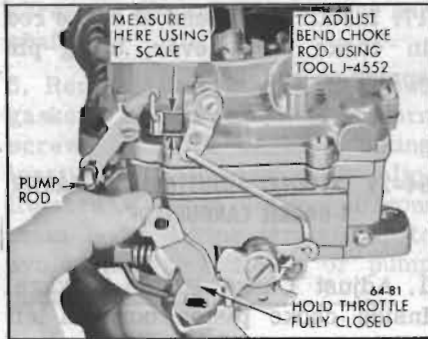

Figure 64-62—Pump Adjustment
3. Adjust Pump. Back-out throttle stop screw exactly two turns. Push fast idle cam aside and seat throttle valves in throttle bores. With pump rod in specified hole, measure from air horn to top of plunger shaft with T-scale. See Figure 64-62. Bend pump rod at lower angle as required to obtain